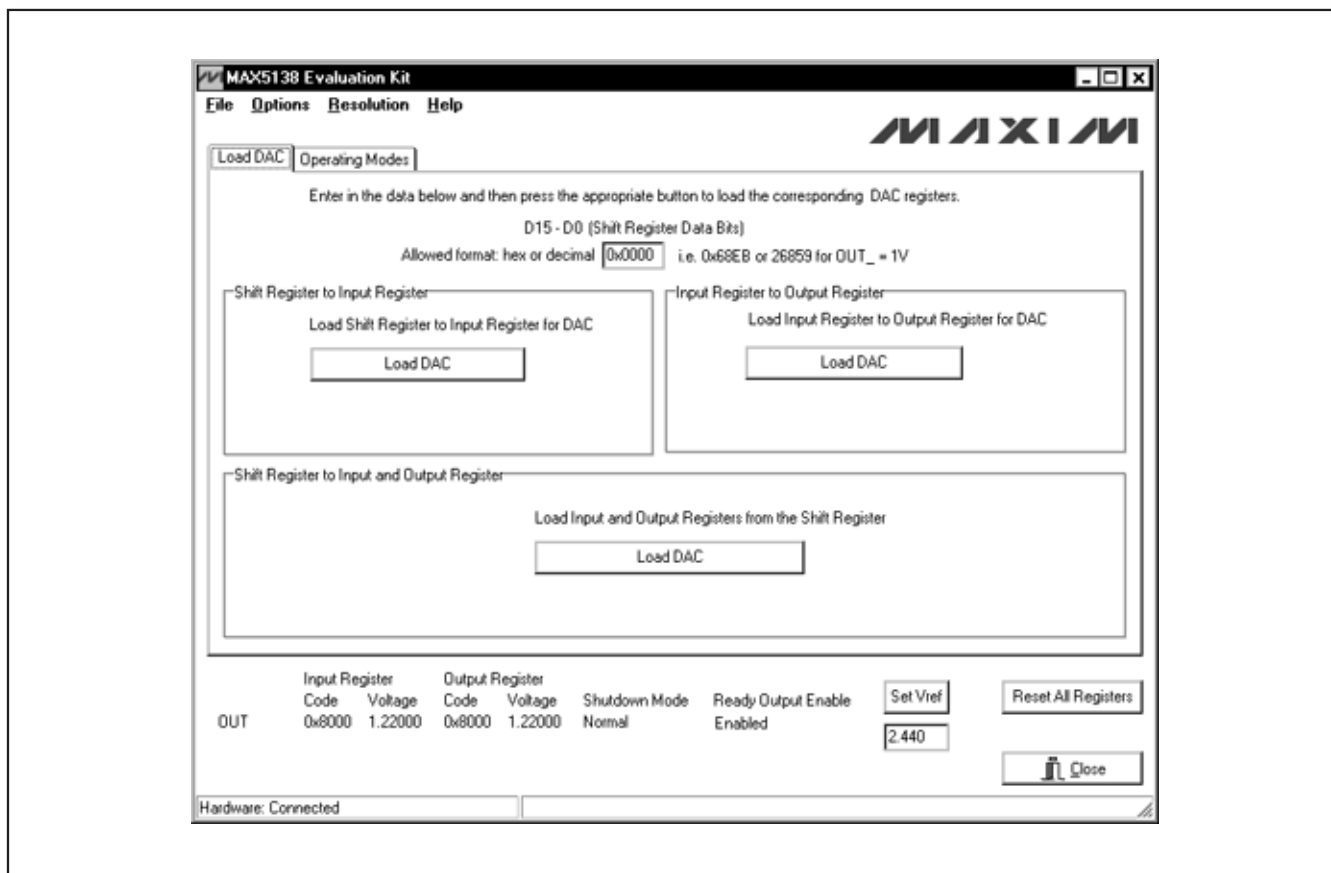

Figure 1. MAX5138 EV Kit Software Main Window (Load DAC Tab)
- 7) When the **Power Up State Of DAC Output** window appears, verify that the shunt on jumper JU6 is in the proper location on the board and press the corresponding radio button. The MAX5138 EV kit software main window appears next, as shown in Figure 1.
The main window of the evaluation software (Figure 1) displays the voltage and code for the DAC input and output registers. In addition, the main window has two tabs. The **Load DAC** tab sheet controls all the DAC loading features of the MAX5138. The **Operating**